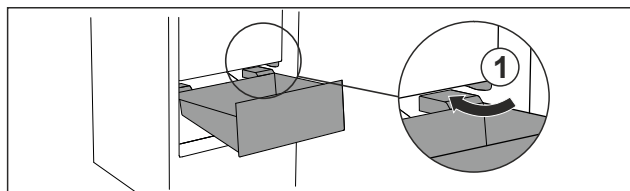

Fig. 65
- Guide drawer in at an angle around the stoppers Fig. 65 (1).